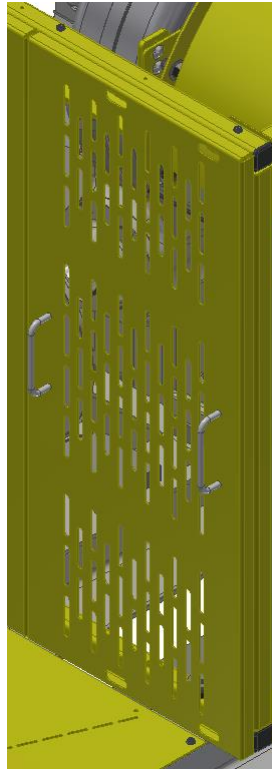

Figure 31: Machine Guard End Panel Installation
- Attach Machine Guard End Panel(s) (p/n _ _-236) and tighten #10-24 screws as shown below (Figure 31).